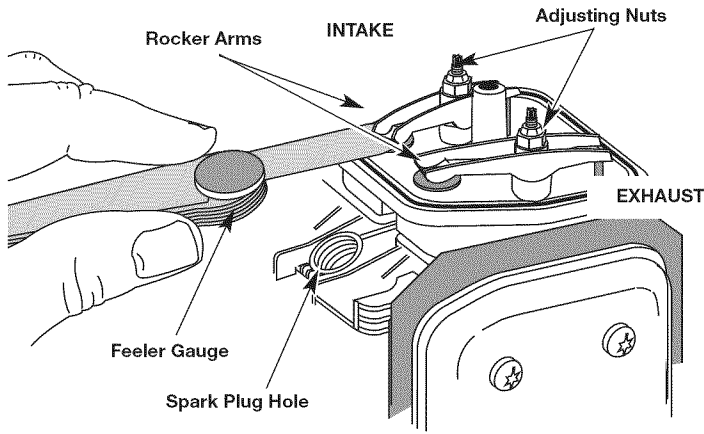

Fig. 32
- The piston is at the top of its travel. Look in the spark plug hole to view the piston (Fig. 32).
- Slide the feeler gauge between the rocker arm and the top of each valve stem. Measure the clearance between the valve stem and rocker arm (Fig. 32). Measure both the intake and exhaust valves.
The recommended clearance for both intake and exhaust is .003 – .006 in. (.076 – 0.152 mm). Use a standard automotive .005 in. (0.127 mm) feeler gauge. The feeler gauge should slide between the rocker arm and valve stem with a slight amount of resistance, without binding. See Figures 32 and 33.
- Turn the adjusting nut using a 5/16 inch (8 mm) wrench or nut driver (Fig. 32).